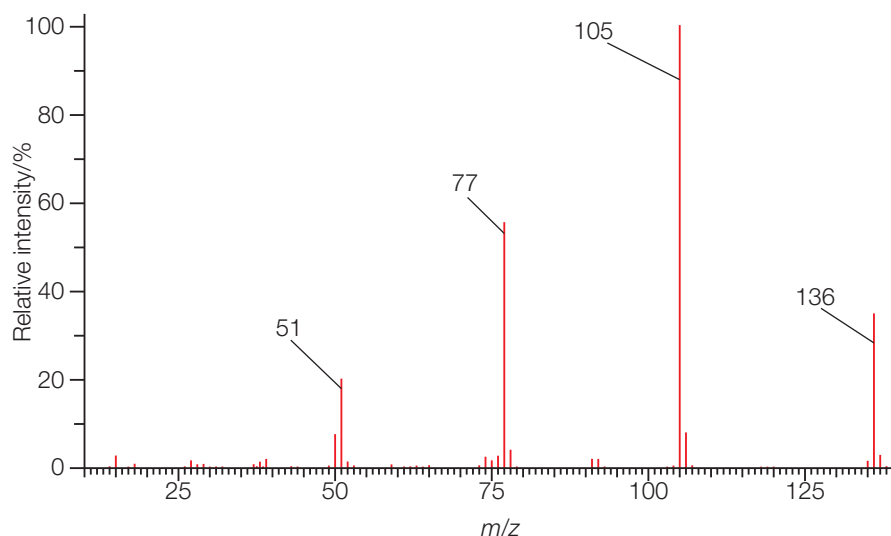

Figure 9.18 ▲
- 20 Suggest the identity of the peaks labelled in the mass spectrum shown in Figure 9.18.